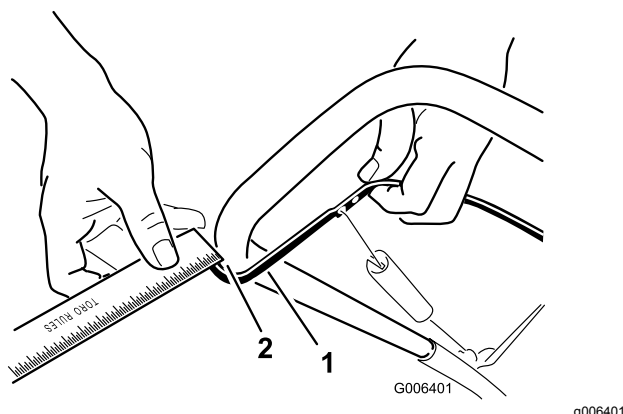

Figure 17
Move the control bar back toward the handle to remove the slack in the control cable (Figure 17).
Note: Ensure that a 2 to 3 mm (1/16 to 1/8 inch) gap exists between the control bar and the handle (Figure 17).
2. Move the Z-fitting to a higher or lower hole on the adjuster link as needed to obtain the 2 to 3 mm (1/16 to 1/8 inch) gap between the control bar and the handle (Figure 17).